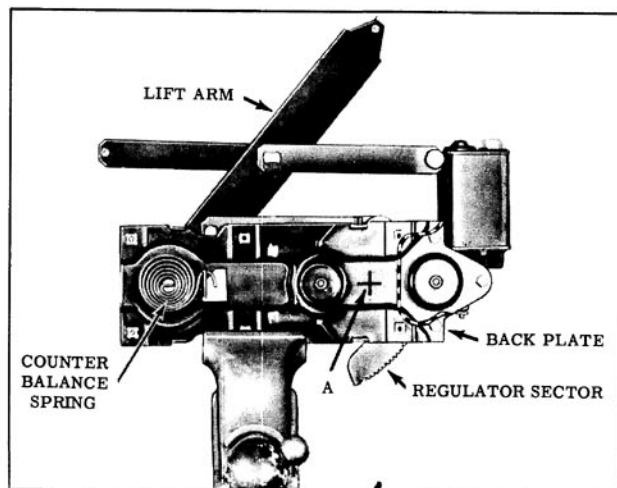

Fig. 16-49 Window Regulator
1. Remove front door window electric regulator and clamp assembly in a vise. (Fig. 16-49)
IMPORTANT: DO NOT drill into the motor housing, part of which is indicated by the dotted line illustrated in Fig. 16-49. In addition, locate hole a sufficient distance from edge of sector gear to insure proper retention of sector gear to back plate.
4. Remove regulator motor attaching bolts and remove motor from regulator assembly. (Fig. 16-49)